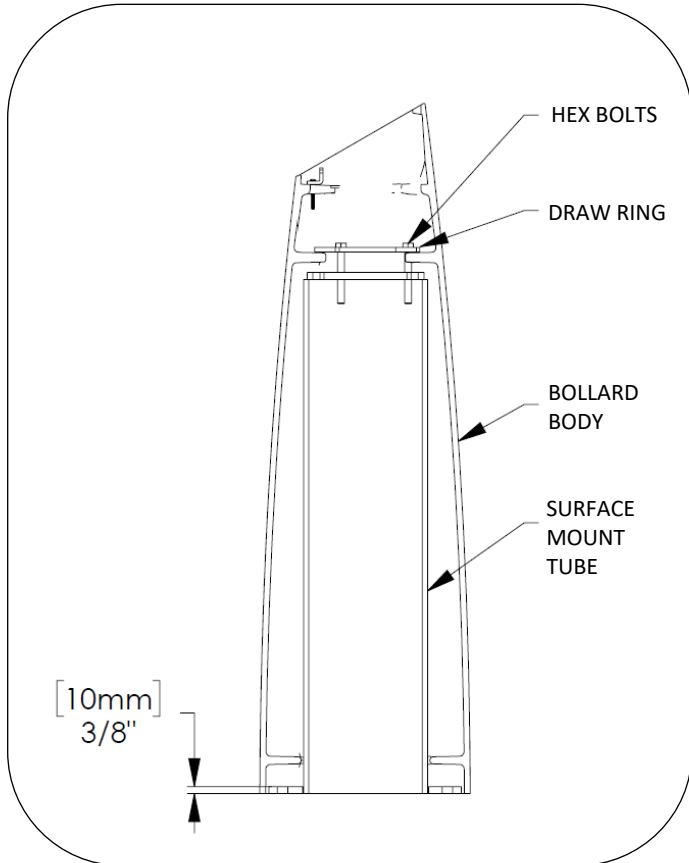
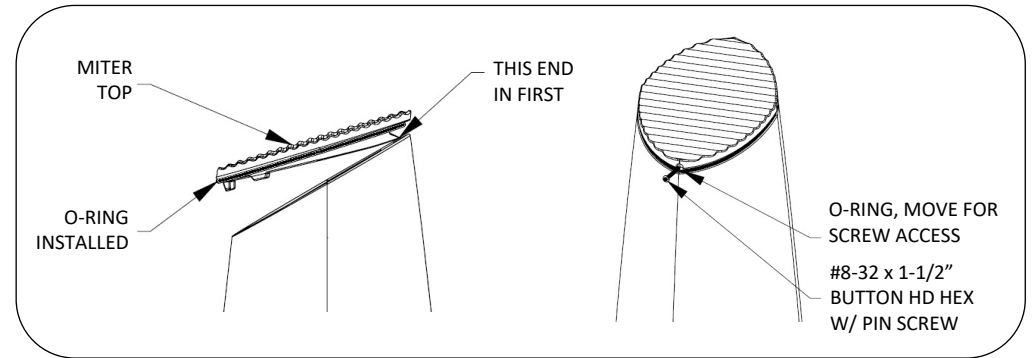

FIG. 2 – SURFACE MOUNT DETAIL
FIG. 3 – INSTALL MITER TOP
5. Install draw ring, see Fig. 2. Draw ring should rest on internal tabs of bollard body. Align draw ring holes with threaded holes on embedded tube.
6. Reinstall (4) hex bolts, tightening in an alternate pattern. **Do not overtighten.**
7. Install the top casting, see Fig. 3. **Do not overtighten screws.**